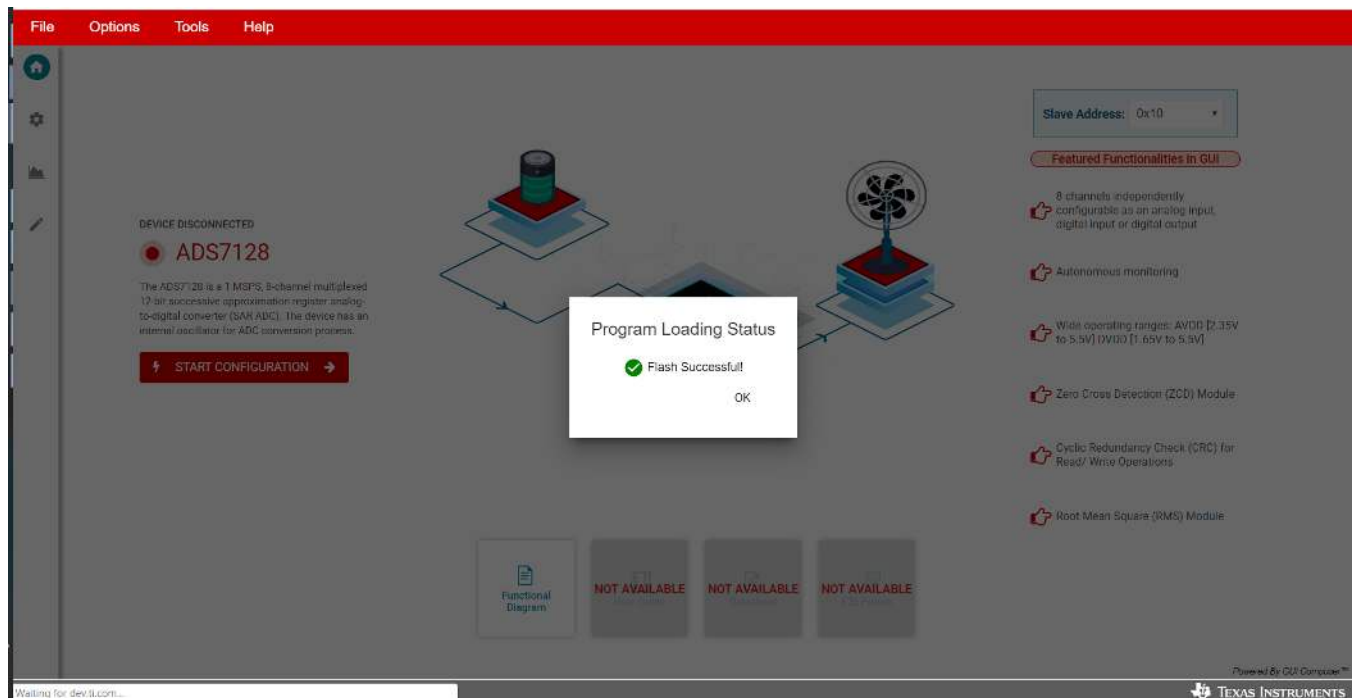

Figure 8. Successful FLASH Program
4. After programming and verification is successful, as shown in Figure 8, disconnect the USB from the MSP-EXP432E401Y debug port.